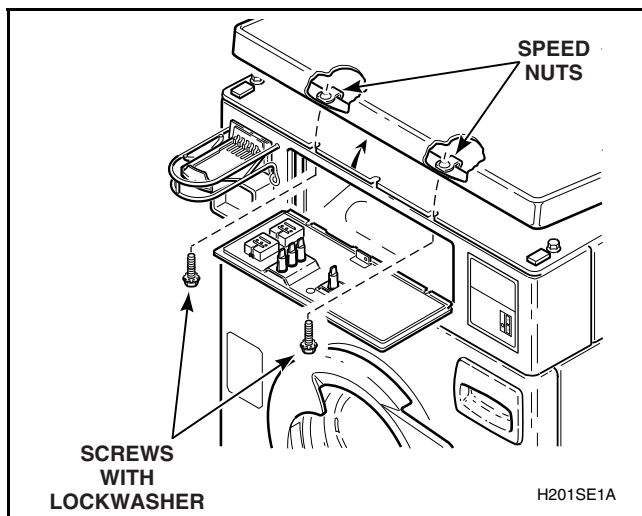
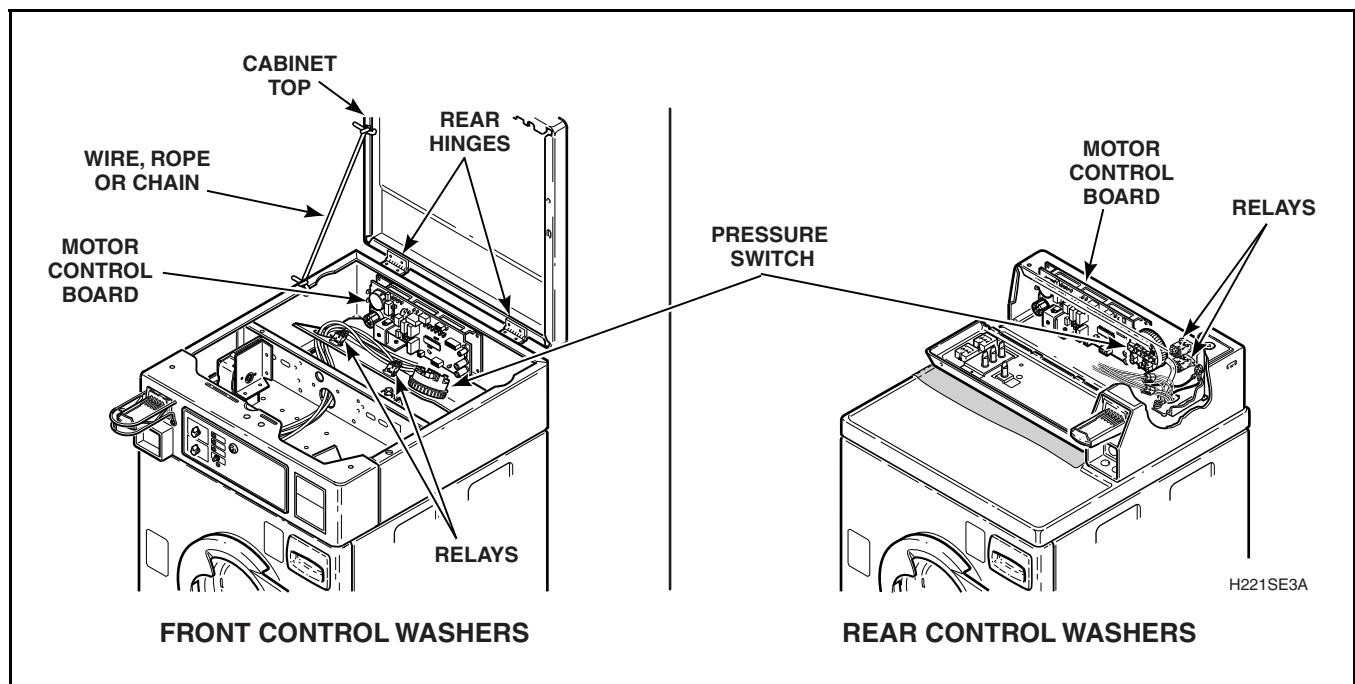

Figure 31
Figure 41
- (4) Remove two screws holding front of cabinet top to top front edge of control cabinet front. Refer to *Figure 31*.
- (5) If area of space permits, lift cabinet top to a vertical position by hinging it on the rear hinges.
**NOTE:** To avoid damage to hinges, be sure to support cabinet top with a small chain or something similar. Refer to *Figure 41*.
- e. Squeeze in locking tabs on pressure switch and remove switch. Refer to *Figure 41*.